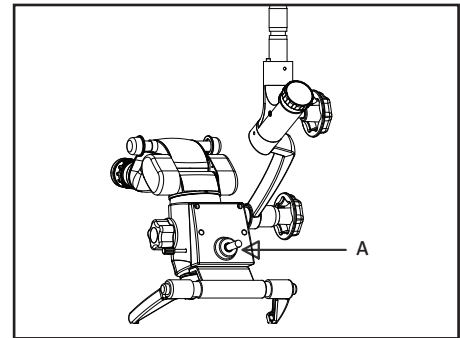

Fig 5
- C. Insert the light guide into the receptacle in the microscope until it clicks into position as shown in A in Fig. 5.